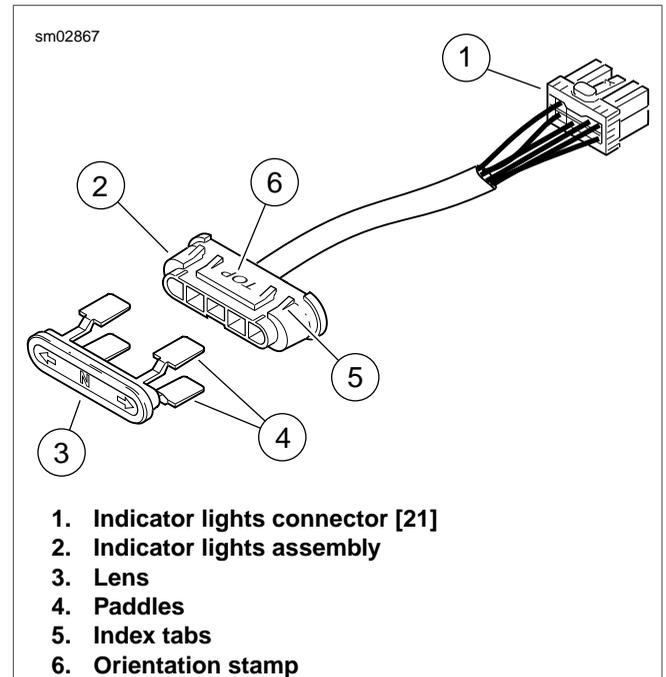

Figure 8-87. Indicator Lights Assembly
4. Release each paddle on lense from pair of index tabs on indicator lights assembly. See Figure 8-87. Remove lense from inner fairing (FLHX, FLHT/C/U) or bezel (FLTR), if damaged.